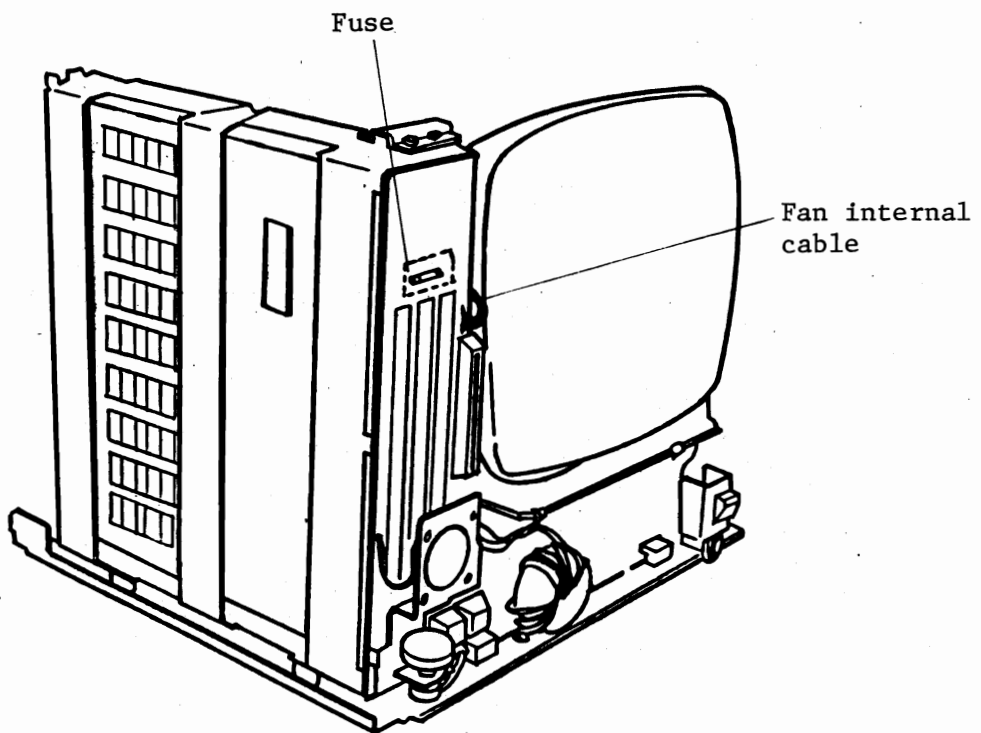

Fig. 5.2.9
(1) Keyboard fuse on MOTHERBOARD
- ① Remove both rear and upper covers (see paragraph 3.2).
- ② Replace fuse shown in Fig. 5.2.9 on MOTHERBOARD.